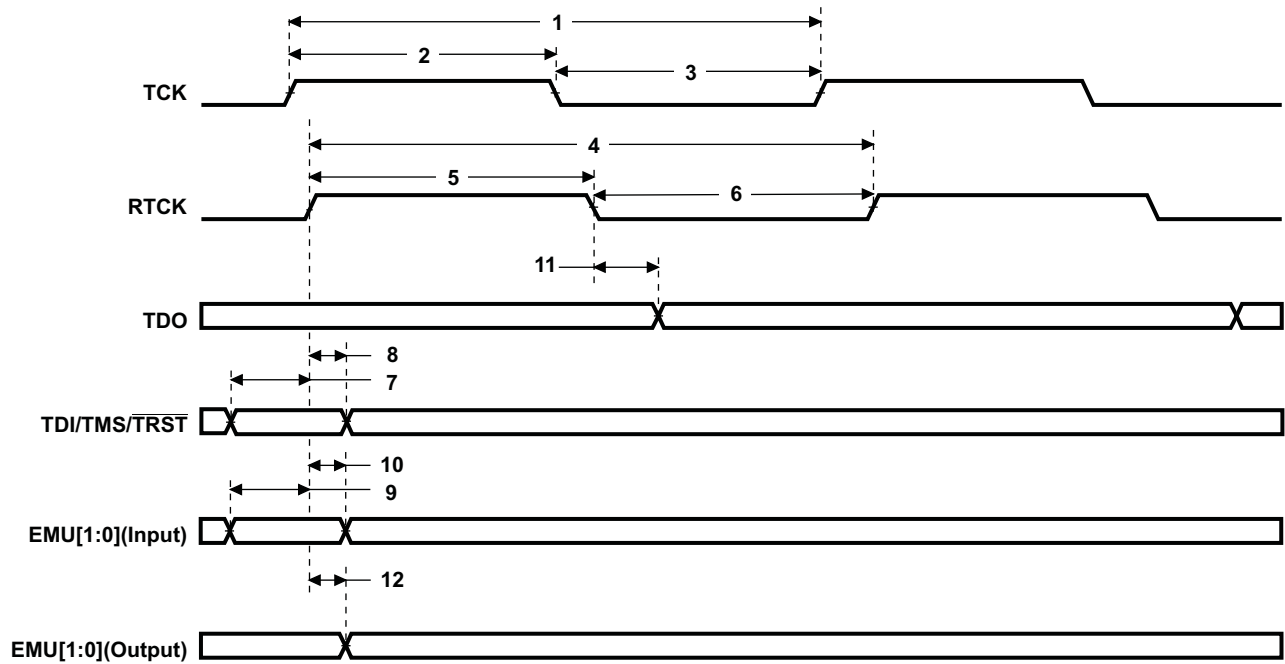

Figure 7-96. JTAG Test-Port Timing
7.29.2 JTAG Test-Port Electrical Data/Timing**Table 7-149. Timing Requirements for JTAG Test Port⁽¹⁾ ⁽²⁾ (see Figure 7-96)**
Table 7-150. Switching Characteristics Over Recommended Operating Conditions for JTAG Test Port⁽¹⁾ (see Figure 7-96)